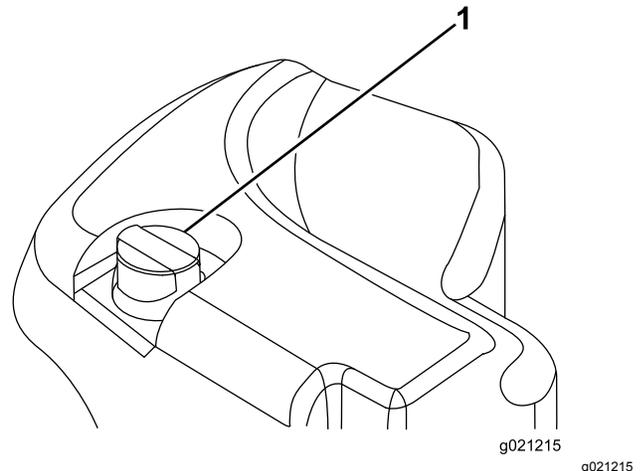

Figure 29
2. Clean the area around filler neck and cap of the hydraulic tank (Figure 29). Remove the cap from the filler neck.